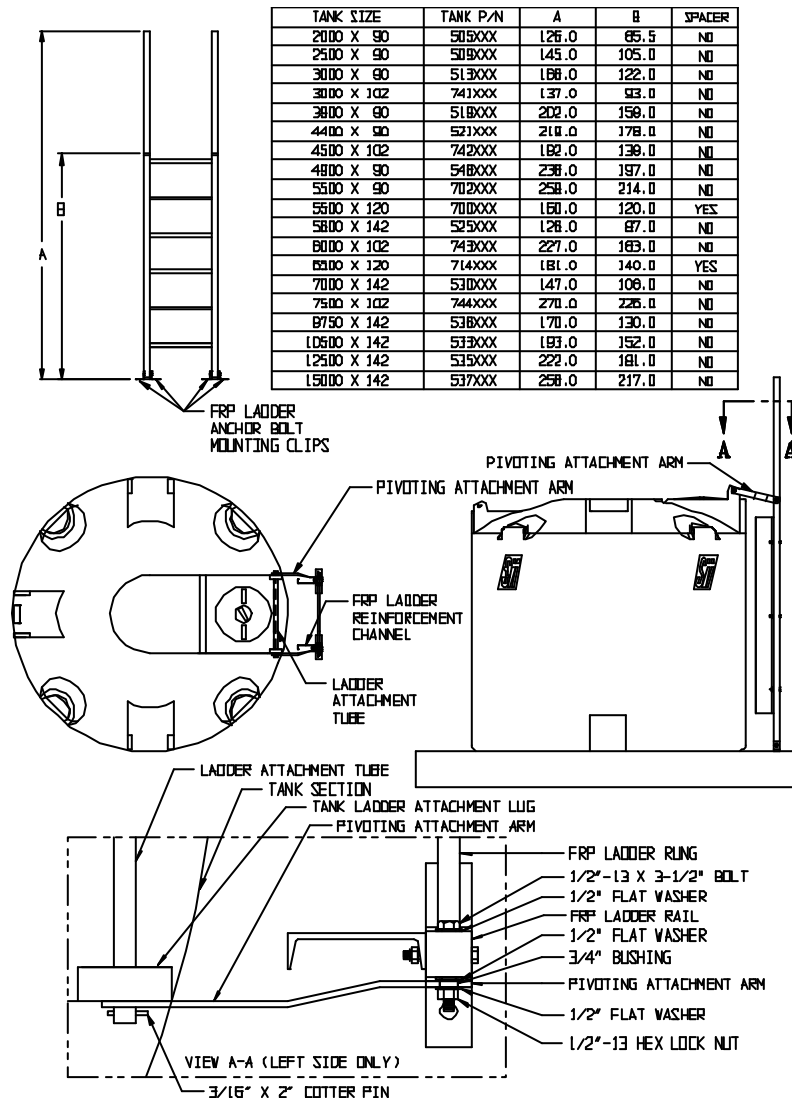

Figure 8.6
8.6.1 FRP ladders are designed in accordance with OSHA 1910.27 and are to be mounted next to the tank on a concrete pad at the same elevation as the bottom of the tank. The concrete pad area that the ladder mounts to must be of sufficient size as to comply with OSHA standards regarding proper access to and from the ladder. This should be determined by the construction site engineer based on the specific application. The pad must be of sufficient size to allow proper attachment of 5/8" anchor bolts (check with anchor bolt manufacture for embedment and edge distance required). The ladder mounting system is designed to allow for tank expansion and contraction due to temperature and loading changes. Using the assembly drawing and table shown in Figure 8.6, verify that all parts are present and assemble accordingly.
8.6.2 Attach the stainless steel top pivoting attachment arms to the ladder using the 1/2" bolt and 3/4" bushing assemblies (2 required) as shown in Figure 8.6. Position the ladder on the tank and attach the top pivoting attachment arms to the tank with the ladder attachment tube and cotter keys provided (see assembly drawing). Position the ladder parallel with the side of the tank and mark 4 ea. 5/8" anchor bolt locations. Install appropriate 5/8" anchor bolts and attach the bottom of the ladder to the concrete pad. Anchor bolts are not provided by the manufacturer and must be purchased by the customer.